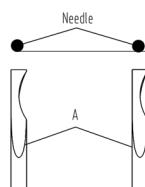
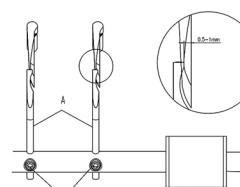
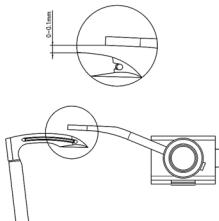

图22(Fig.22)
图23(Fig.23)
图24(Fig.24)
当拨线杆(A)于左死点位置时，拨线杆(A)右端与弯针右端之间的间隙为0.5-1mm。(图23)而弯针与拨线杆(A)之间的间隙为0.01mm。(图24)
- 1.先拧松在稍微锁紧拨线杆心轴固定螺钉(C) (图23)。
- 2.旋转手轮使拨线杆心轴连杆(D) 移至左死点位置。
When thread weavers are at the left dead end position ,the right side of thread weavers is away from the fight side of loopers by 0.5-1mm (Fig.23) And ,the gap between loopers and Thread Weavers is 0.01mm(Fig.24)。
1. Loosen but slightly screw (C) on the shaft of thread weavers (Fig.23)
2. Turn belt pulley to move the lever of thread weavers (D) to left dead end.
3. Adjust loopers and thread weavers to meet all requirements mention above then tighten screw (C).
拨线杆(A)与机针间隙如(图22)所示为0.2-0.4mm，当针杆在下死点位置时，将固定螺钉(B) (图23)拧松，并调整拨线杆(A)至(图22)所示尺寸并注意各杆的平行，再锁紧螺钉。
The gap between thread weavers and needles is (Fig.22), about 0.2-0.4mm. Move needle bar to its low bottom end position then loosen screws (B) (Fig.23) and move thread weaver .to position shoen (Fig.22),then tight screw (B) Be sure all Thread Weavers are paralleled when tightening screw (B).